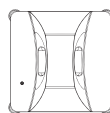

Figure 3
- Check that the safety rope is not broken and the connection with the robot is firm. (Figure 3)